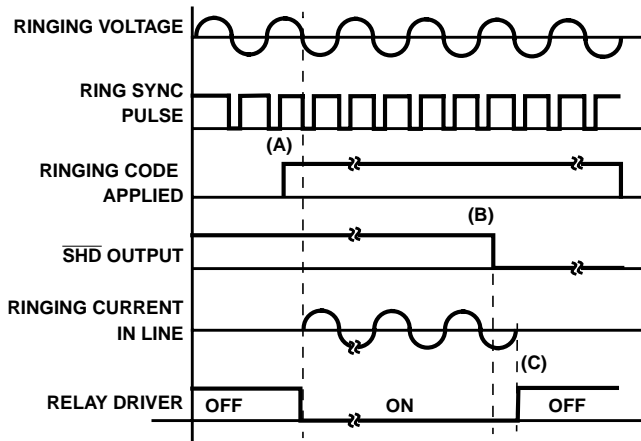

FIGURE 19. RINGING SEQUENCE
Figure 19 shows the sequence of events from ringing the phone to ring trip. The ring relay turns on when both the ringing code and ring sync pulse are present (A).  $\overline{SHD}$  is high at this point. When the subscriber goes off hook the  $\overline{SHD}$  pin goes low and stays low until the ringing control code is removed (B). This prevents the  $\overline{SHD}$  output from pulsing after ring trip occurs. At the next zero current crossing of the ring signal, ring trip occurs and the ring relay releases the line to allow loop current to flow in the loop (C).